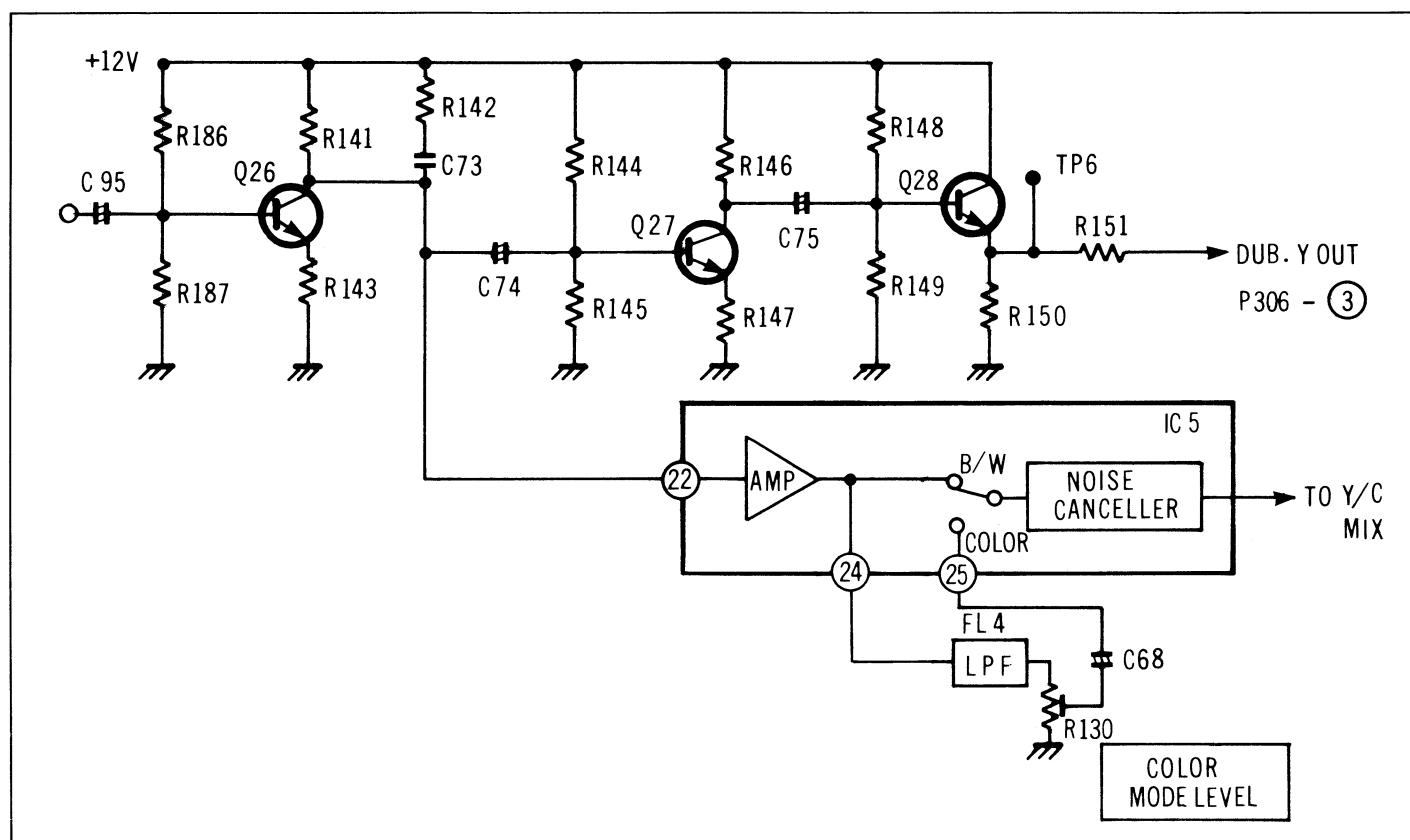

Figure 2-97
As was previously described, the video signal was pre-emphasized during recording. Therefore, it must be de-emphasized during playback to retain a flat overall frequency response. C73 and R142 form the de-emphasis network. This signal returns to IC5 (22) for more amplification from Q26. See Figure 2-97.